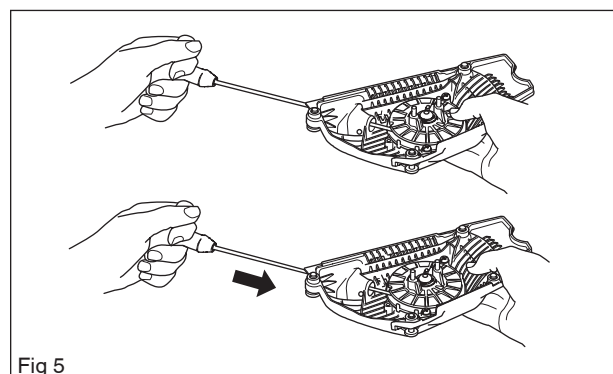

Fig 5
2. Stretch the line with the handle. Remove your thumb and let the cord spin back. See figure 5.